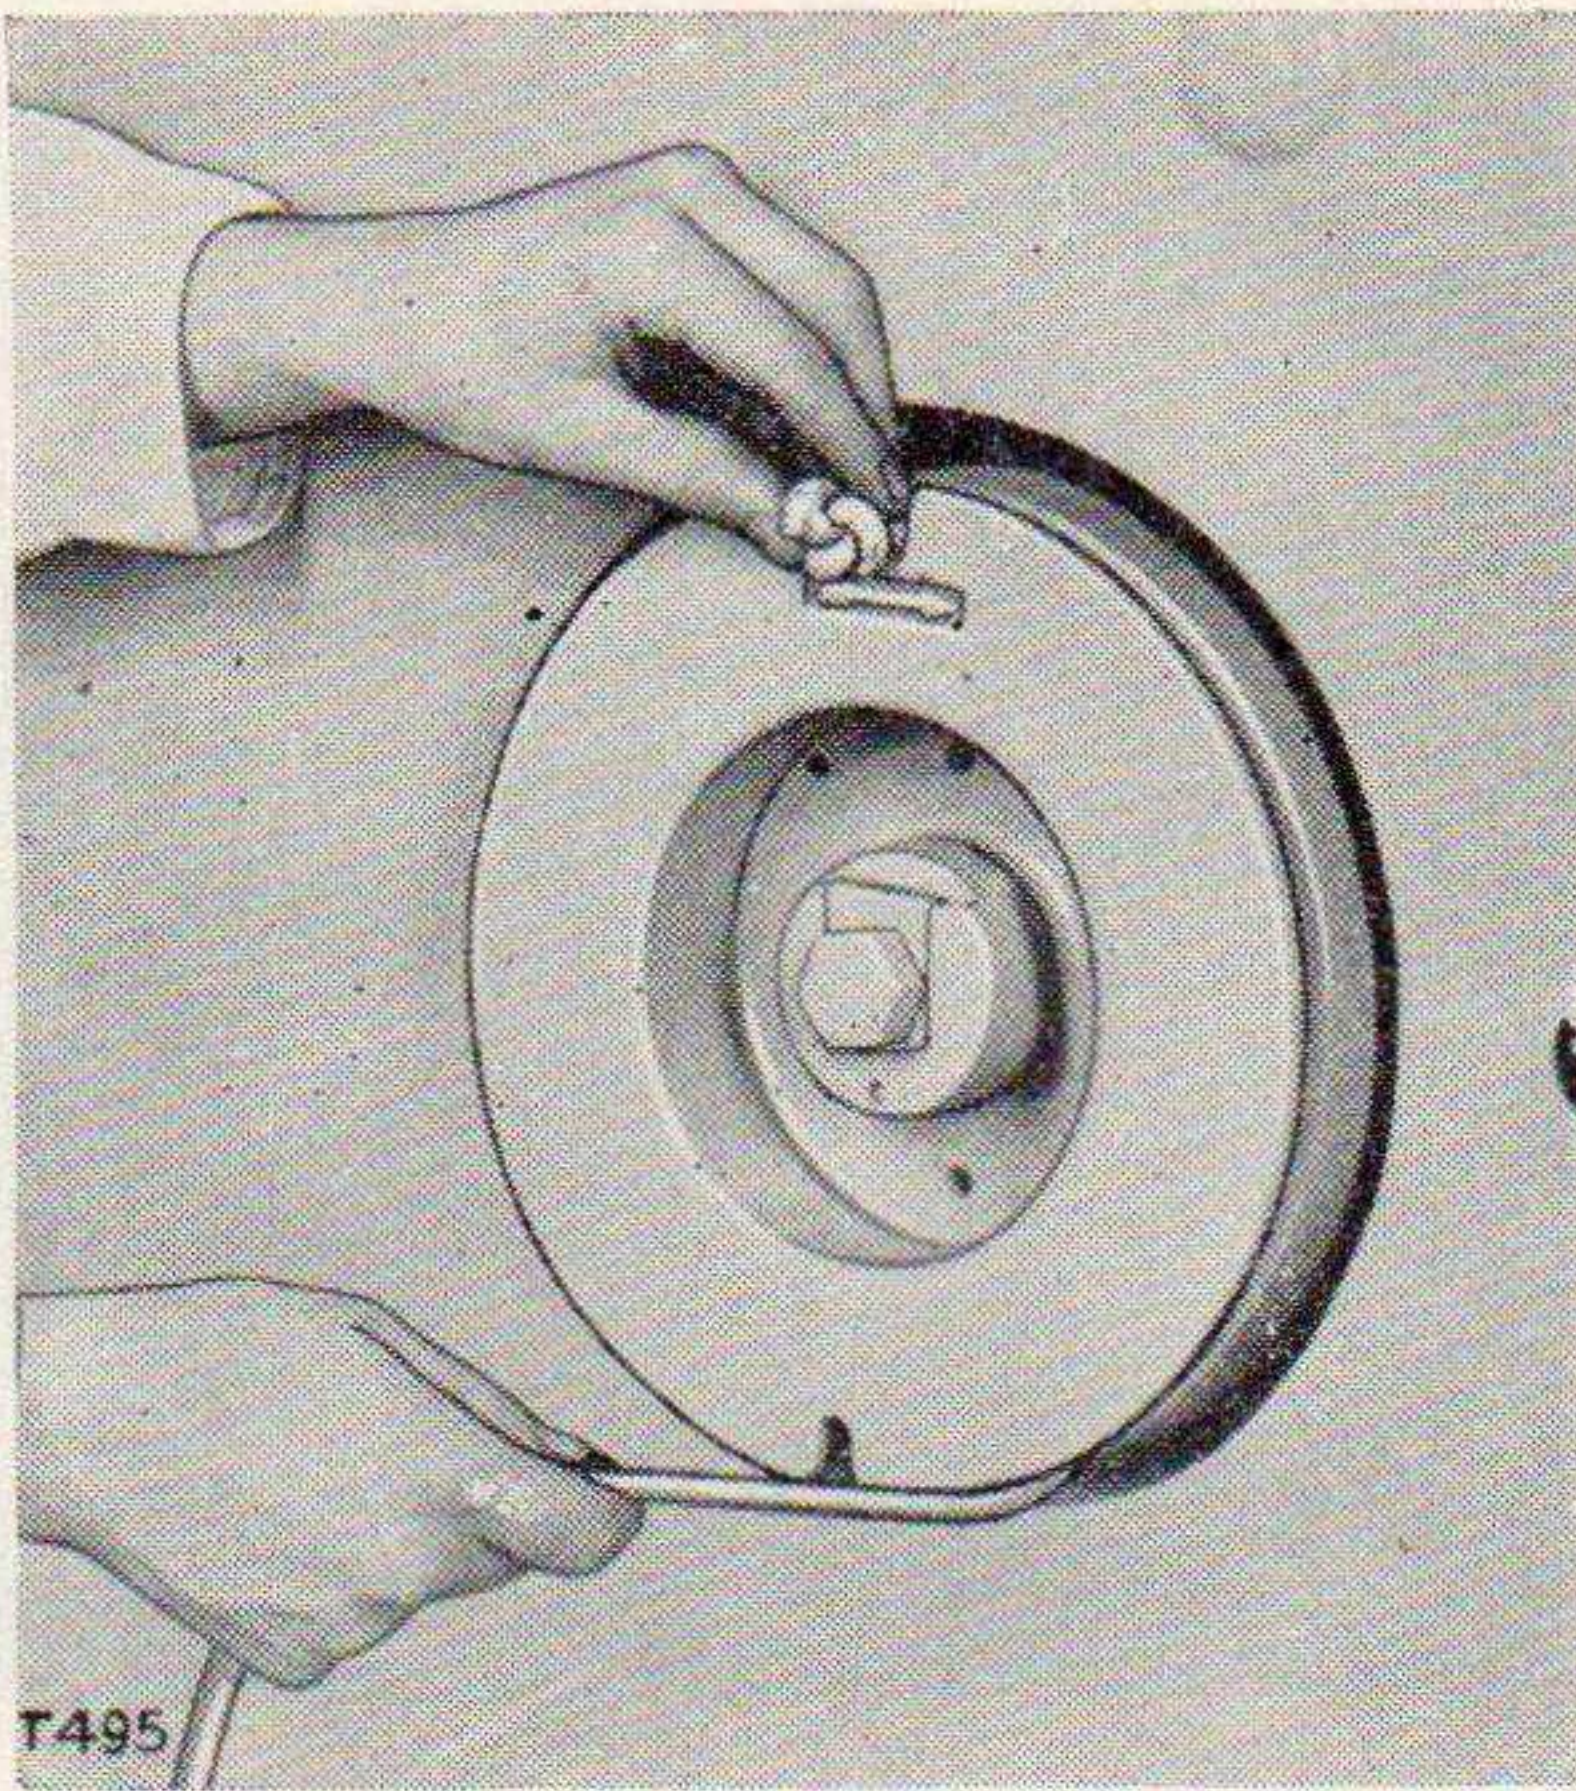
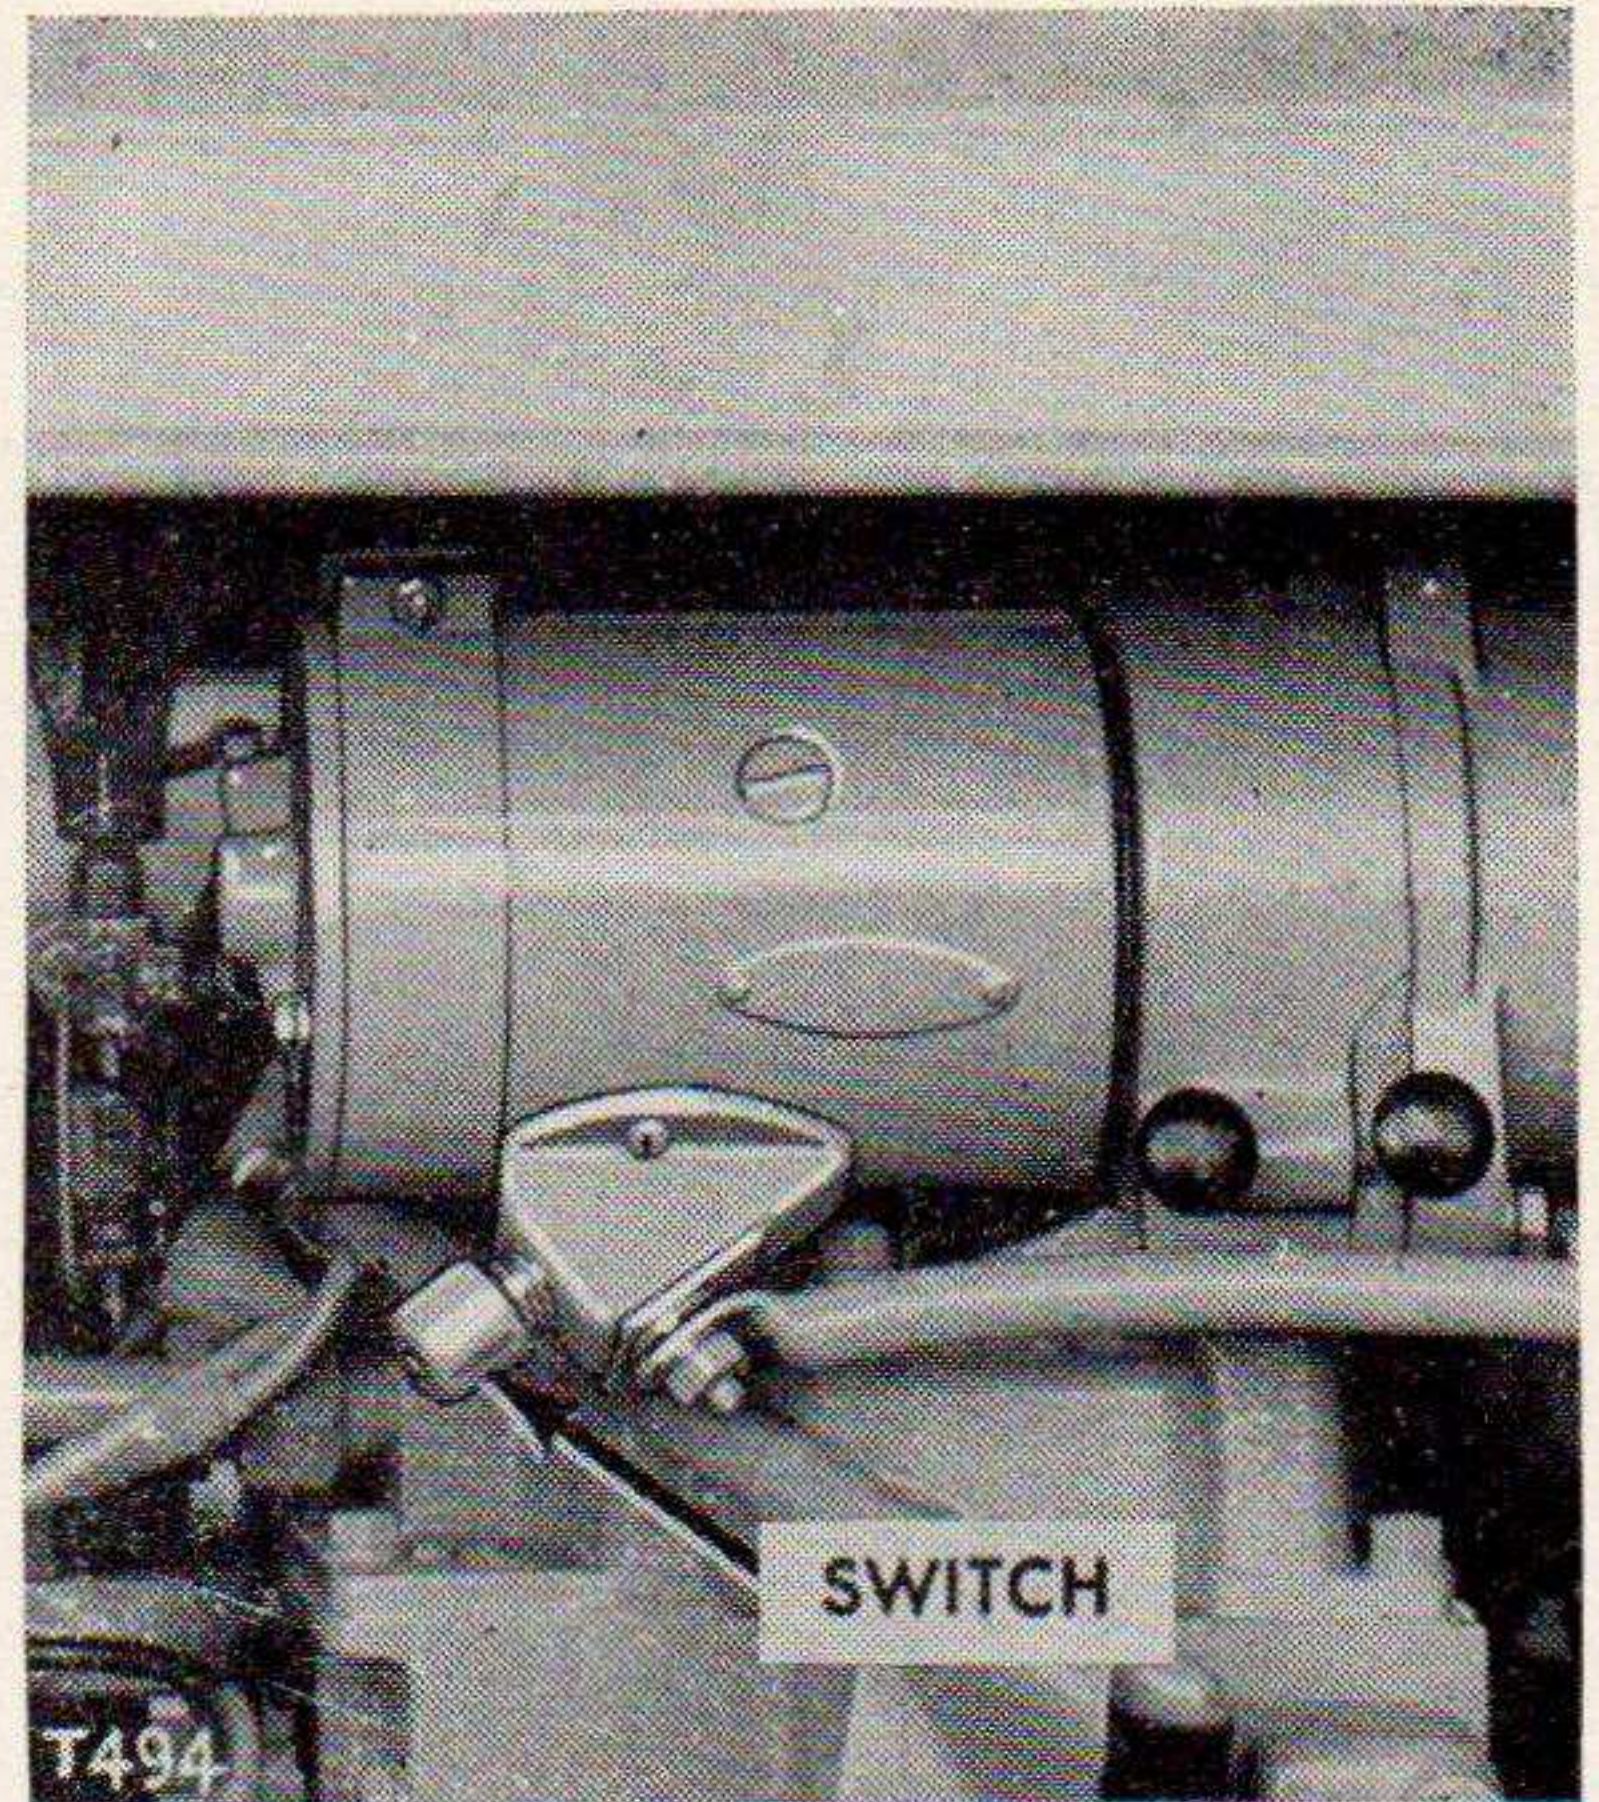

Figure 19. Cranking with a rope.
Figure 20. Electric starter (special attachment).
- (5) *Crank.* (See fig. 19.) Place the knotted end of the starting rope in one of the two notches on the starting engine flywheel flange with the knot to the outside, and wind the rope around the groove in such a manner that when the rope is pulled the flywheel will turn in the direction indicated by the arrow on the flywheel. Grasp the starting rope handle with the right hand and spin the flywheel with a quick pull on the rope.
- (6) *Trouble shooting.* If the engine will not start refer to the trouble shooting guide in paragraph 41.
- (7) *After the starting engine starts.*
- (8) *Electric starter.* If the starting engine is equipped with an electric starter, place the starting engine controls in the same position as described above, then crank the engine with the electric starter by pressing on the electric starter switch. (See fig. 20.)